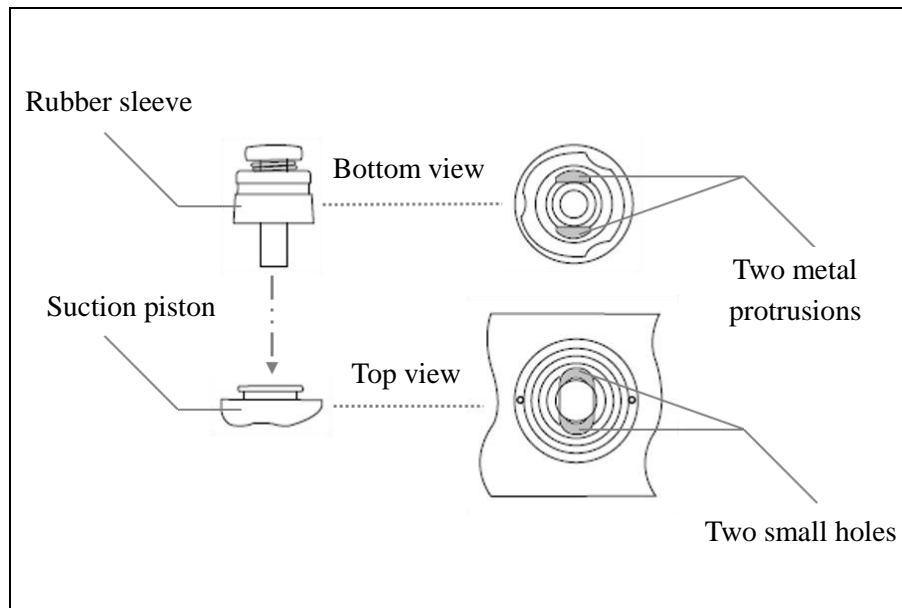

Figure 3.23
2. Install the Suction button on the suction interface of the endoscope (as shown in Figures 3.23 and 3.24), confirm that the button is installed properly, the rubber sleeve is not raised, and make sure that the button cannot rotate.